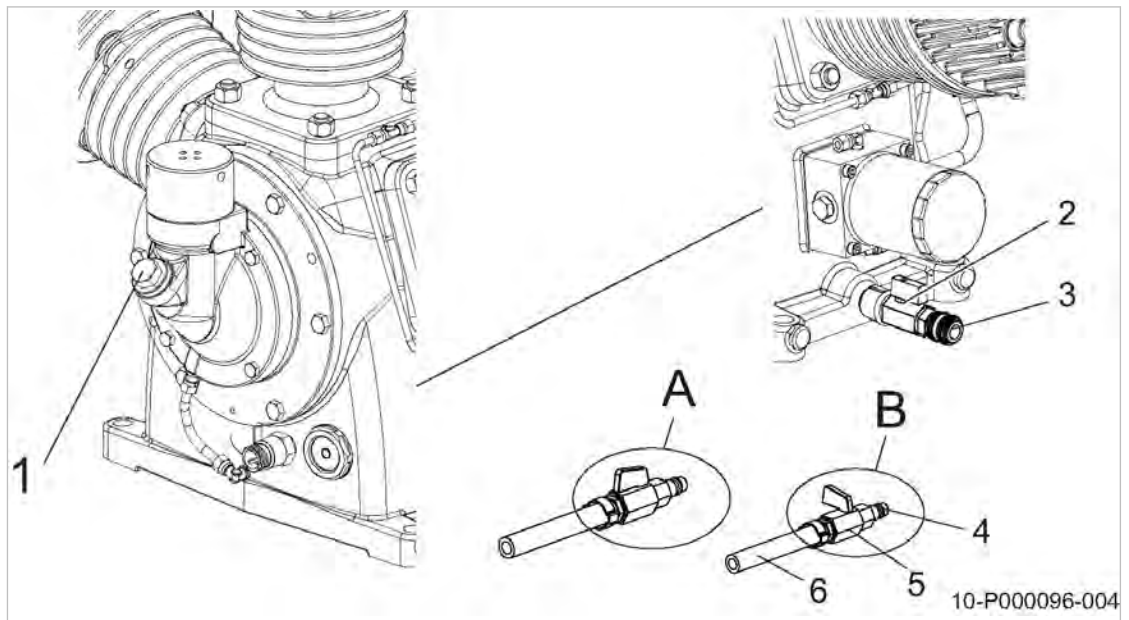

Fig. 44 Changing the compressor oil
1. Open the filler plug  (Fig. 44) slowly.